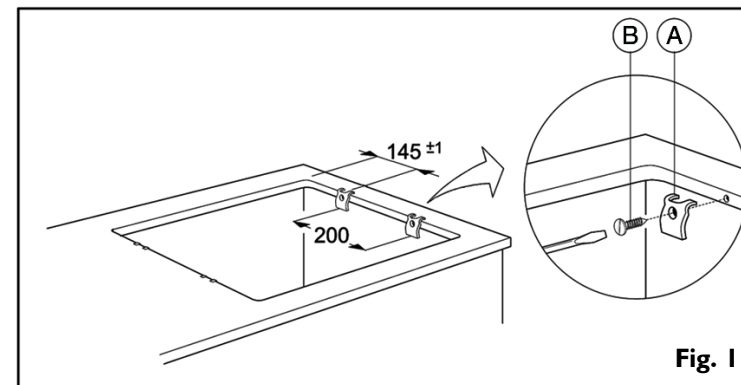

Fig. 1
- 1. Secure the spring clips **(A)** (fig. 1) with the screws provided **(B)** (fig. 1) as shown, paying attention to the specified distances.
- 1. Fit the hob into the worktop (fig. 1).